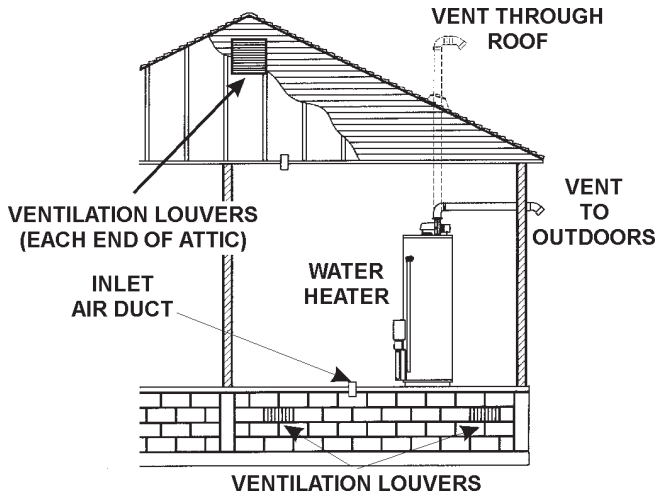

FIGURE 18.
B. ALL AIR FROM OUTDOORS: (See Figures 18, 19 and 20)
- When directly communicating with the outdoors, each opening shall have a minimum free area of 1 square inch per 4,000 Btu per hour (5.5 cm²/kW) of total input rating of all equipment in the enclosure, see Figure 18.